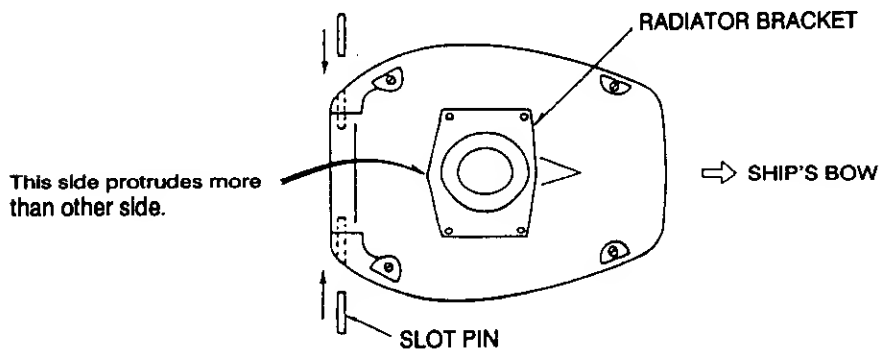
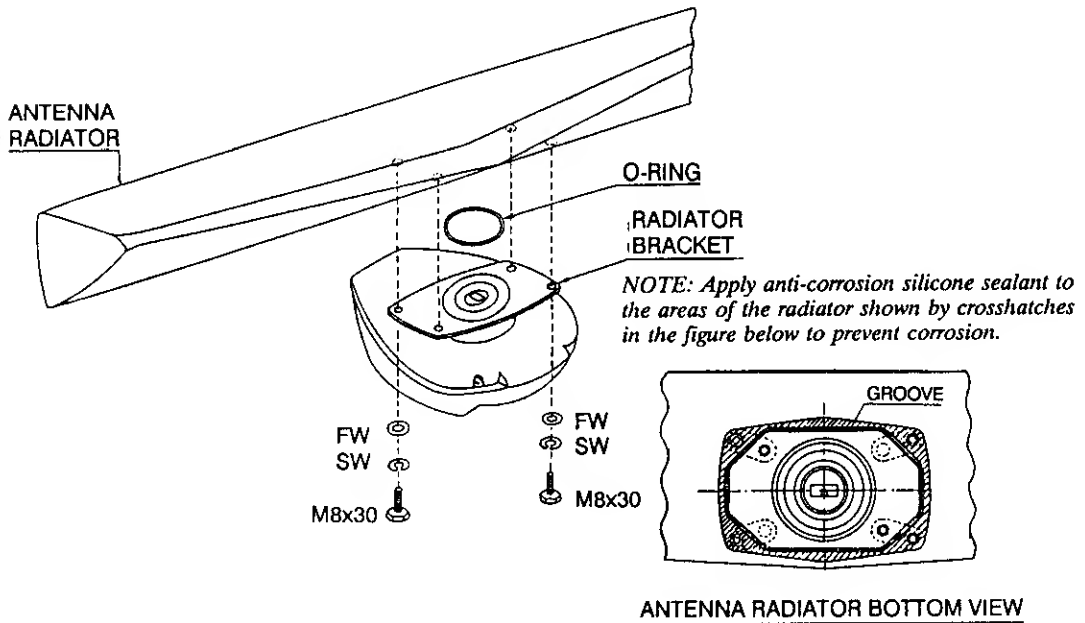

Figure 6-5 Slot Pin Insertion
Figure 6-6 Fixing the Radiator to the Scanner Housing
3. Now is the time to fix the radiator to the radiator bracket. Remove the red rubber cap on the radiator bracket and orient the radiator bracket as shown in Figure 6-5. Referring to Figure 6-6, apply grease to the O-ring and set it to the center of the radiator bracket. Coat the radiator fixing bolts with silicone sealant. Fix the radiator to the radiator bracket with the FURUNO logo on the radiator facing ship's bow.